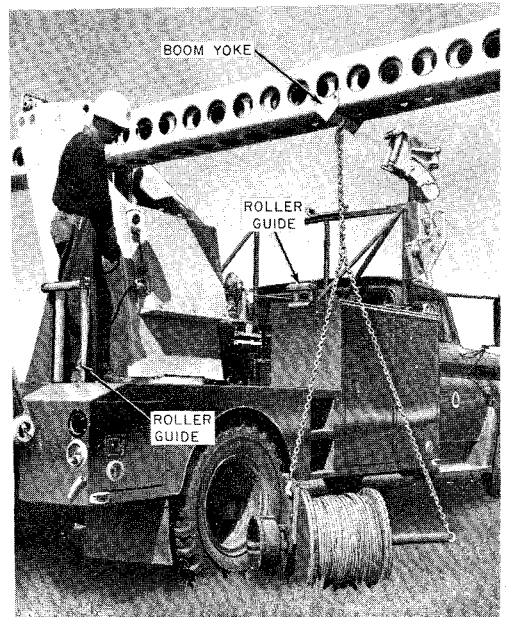
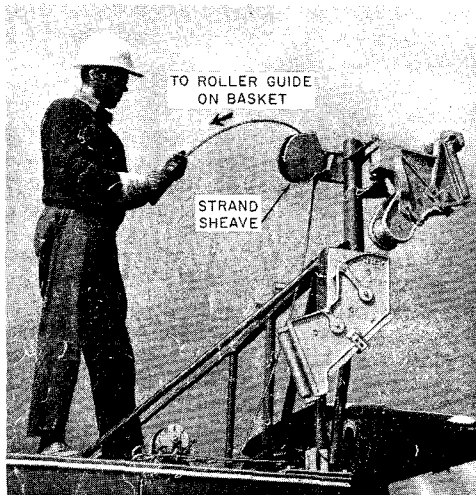
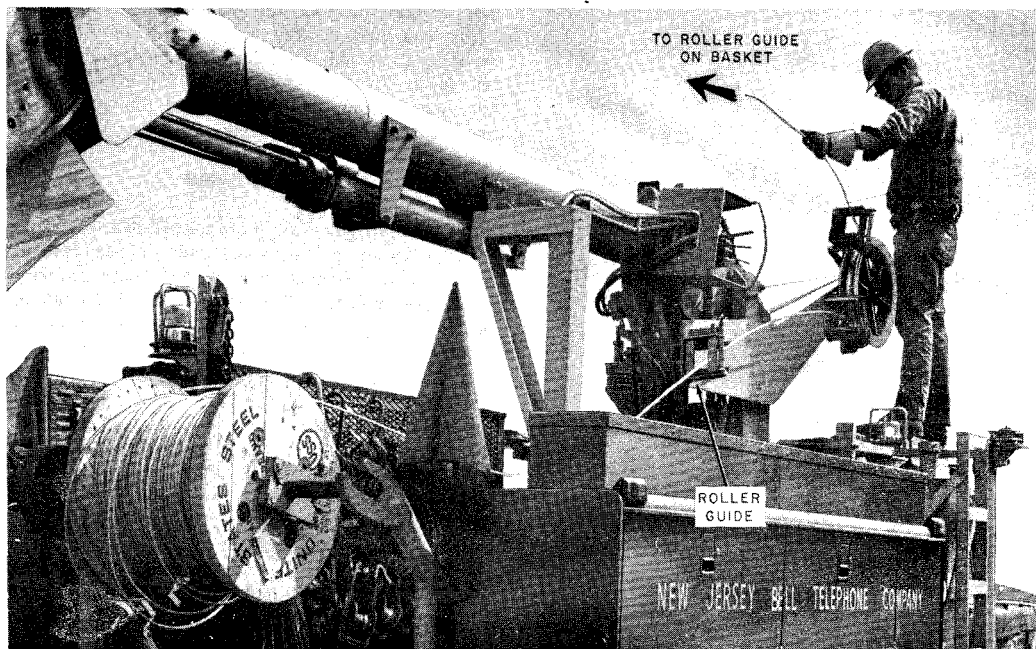

Fig. 6—Method of Attaching Lifting Chain on TELSTA
Fig. 8—Strand Threaded Through Strand Sleeve on TELSTA
Fig. 10—Strand Threaded Through Guides on SKYWORKER
- (4) Place the reel adapter collar on the end of the spindle with the tapered end in contact with the reel. Tighten the setscrew.
- (5) Attach the TELSTA lifting chain as shown in Fig. 6 (or other chain of suitable length
(9) Thread the strand up through the strand sheave located to the left of the swivel bull wheel (Fig. 8) and through the roller guide (fairlead) at the basket.
- (6) Thread the strand through the guides and around the bull wheel (Fig. 10) and to the roller guide at the basket.
the strand through the guides mounted at the right rear and at the right center of the truck body (Fig. 6) and then through the strand sheave shown in Fig. 8. For the SKYWORKER, pass the strand from the reel, through the guides and around the main guide sheave as shown in Fig. 10.